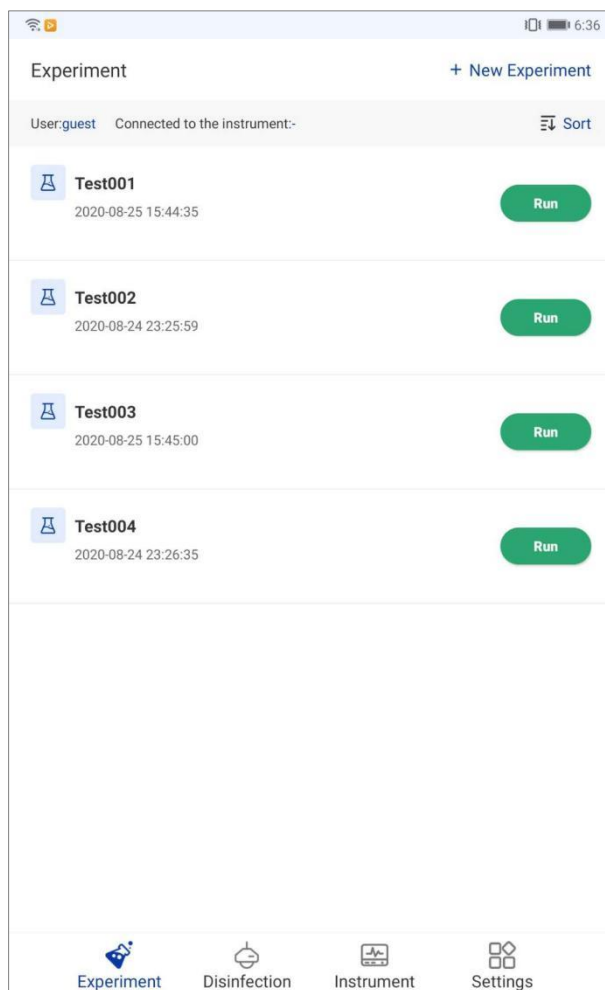

Figure 5-6. Experiment Interface - Delete/Edit Experiment
5. **Delete Test:** select any experiment on the experiment interface and slide it to the left, user can click < **Delete** > to delete current selected experiment, as shown in figure 5-6.
- 6. **Edit Experiment:** select any experiment on the experiment interface and slide it to the left, click < **Edit** > to edit current selected test experiment, as shown in figure 5-6.
- 2) After creating a new experiment, user can click < **Next Step** > to edit the experiment, as shown in figure 5-6, 5-7 and 5-8. For detail operation instructions, please refer to 5.2.1 Experiment Interface – Edit Experiment.